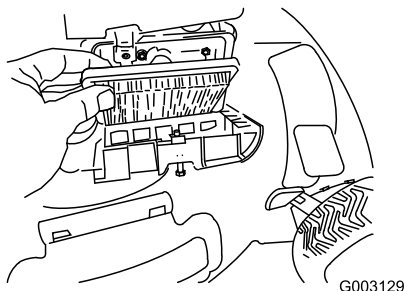

Figure 35
4. Install the cover (Figure 35).